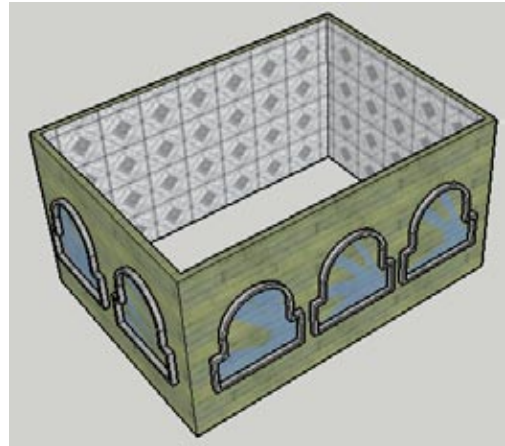

Figure 7-61
10. From the In Model folder of the Components window, insert some windows in the walls. The cutting face aligns exactly with the front faces of the walls (Figure 7-61).